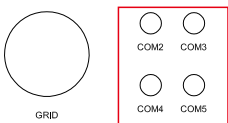

Figure 4.7
b. Remove the cap nut from the waterproof cable glands labeled at the bottom of the inverter. Remove the plug from the fitting. (see Figure 4.7).